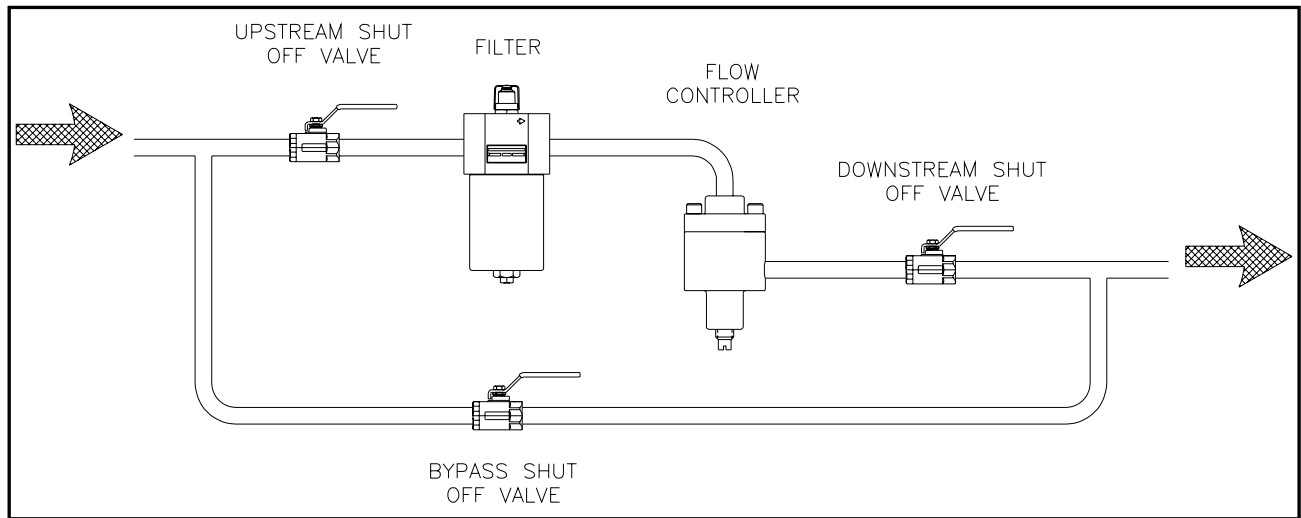

Figure 1
2. Upstream and downstream shutoff valves and a bypass valve should be installed (see Fig. 1) so that the controller may be opened for inspection and cleaning without requiring complete system shutdown.
1. It is necessary to remove the controller from the line to clean. If installation includes proper shutoff and bypass valves, operate these and take the controller off stream or control. (See fig. 1)